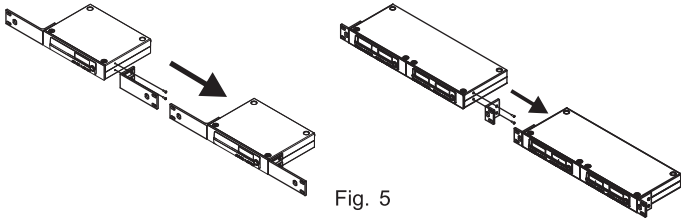

Fig. 5
1. Single half-rack or single full-rack receiver: Install the optional rack mount kit and fasten with screws on both sides. Fig. 5